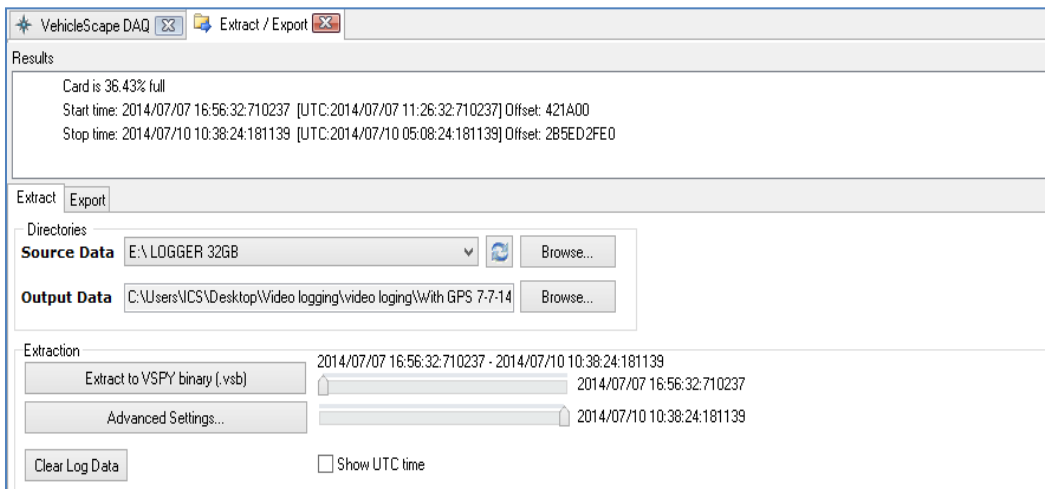
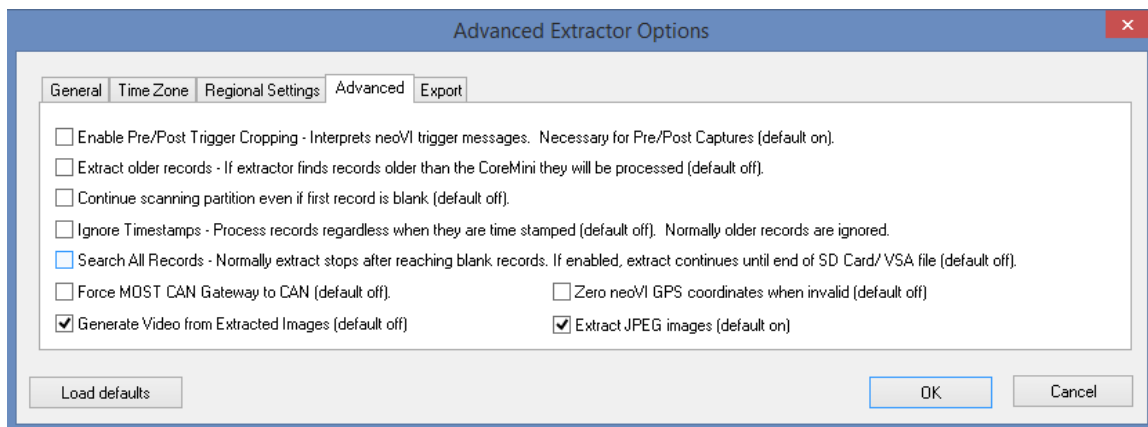

Figure 9: Extractor setting to extract the logged data from the SD Card
Figure 10: Advanced Extractor options to generate images or a video of the logged data
- Extract/Export window will show the following details(Figure 9)
- Click on ‘Advanced Setting’ from Figure9 to open a dialog ‘Advance Extractor Options’ (Figure10).
- Select ‘Advanced’ option (Figure10). Check ‘Generate Video from Extracted Images’ option to get video (AVI format) after extraction. Or else check only ‘Extract JPEG images’.